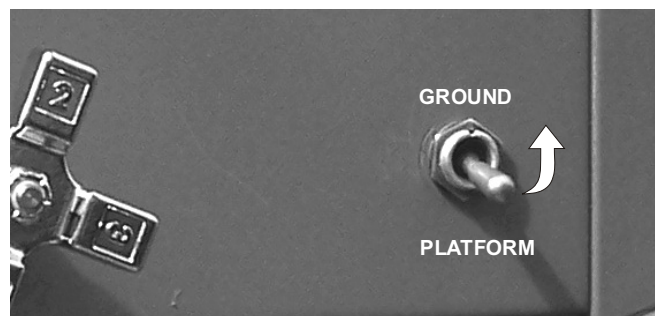

Figure 9.7 - Ground / Platform Selector
1. Select GROUND on the ground/platform selector switch at the rear of the column (see Figure 9.7).